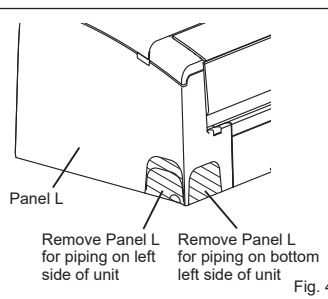
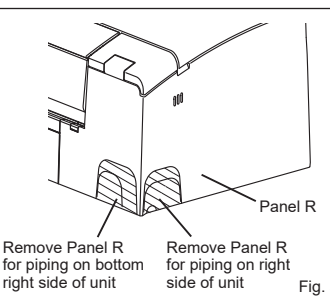

Fig. 4
Fig. 5
- 10) According to the piping direction, remove the shaded part of the panel L (Fig. 4) or panel R (Fig. 5). Reinstall electrical cover and panel assembly.
- Insert the drain hose fully into the drain pan at the back right of the indoor unit. (Fig. 4)
- Insert the drain hose into wall hole sleeve (C), and attach the upper part of indoor unit onto the installation plate (1). Then, shift the indoor unit completely to the left to make placing the piping in the back of the unit easier.
- Cut out the spacer from the packaging styrofoam and set it on the rib on the back of the indoor unit. (Fig. 5)
- Connect the refrigerant piping with the extension pipe (B).
- Push the lower part of the indoor unit to fit into the installation plate (1), then attach the parts in the opposite steps of removal.
- 4) Flaring work (Fig. 4, 5). Firmly hold copper pipe in the dimension shown in the table. Select A in. (mm) from the table according to the tool you use.